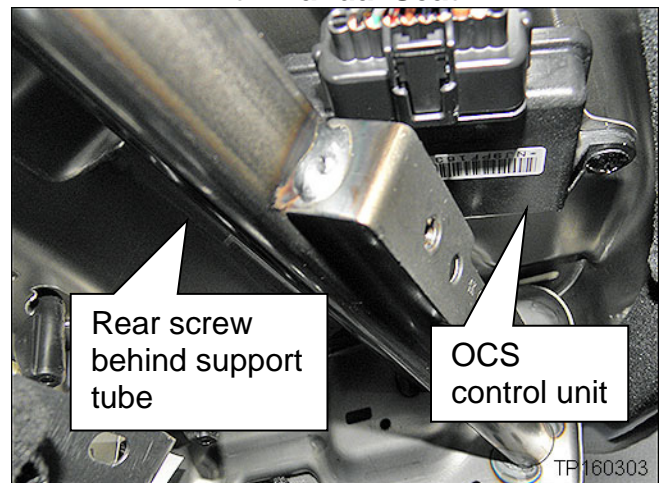

Figure 6
- With manual seat, see Figure 6.